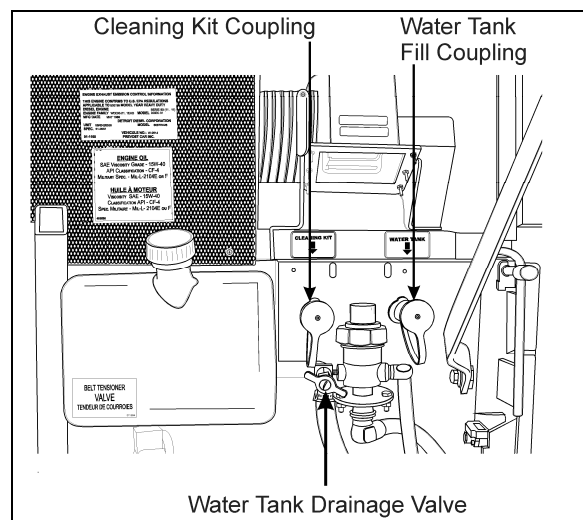

FIGURE 26: FRESH WATER TANK SERVICE VALVES
2. Insert projection at end of "BOBRICK" key into rectangular hole in cover (Figure 26). Push straight in. While holding "BOBRICK" key in, turn cover counterclockwise about 1/8 turn.